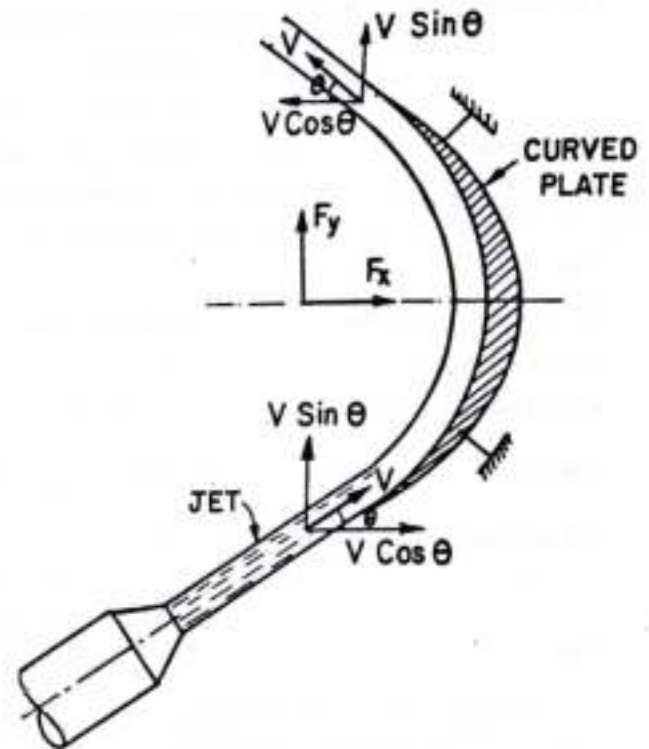

Fig. 17.4. Jet striking curved fixed plate at one end.
**(B) Jet strikes the curved plate at one end tangentially when the plate is Symmetrical.** Let the jet strikes the curved fixed plate at one end tangentially as shown in Fig. 17.4. Let the curved plate is symmetrical about  $x$ -axis. Then the angle made by the tangents at the two ends of the plate will be same.